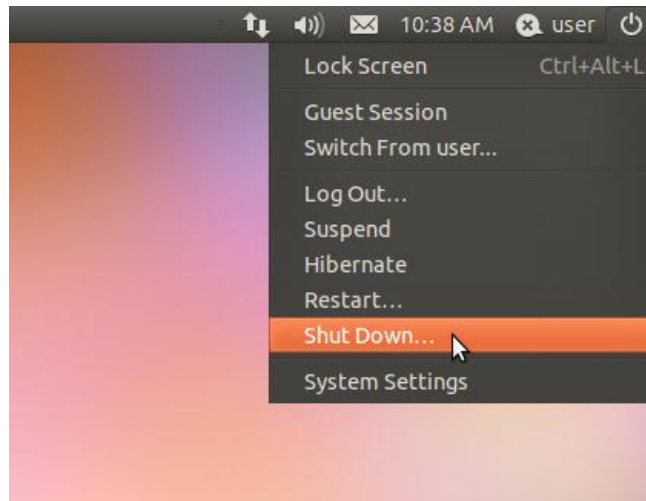

Figure 10: Shut down
17) Once the results are checked, switch off the machine to repeat this process with another board. To switch off, click on the power button placed in the upper right corner of the desktop and select **Shut Down**, as Figure 10 indicates.